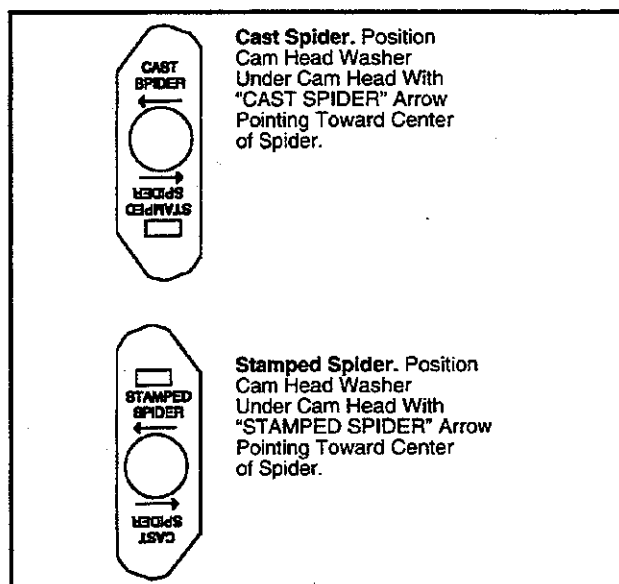

Figure 34—Camshaft Washer
The extended service brakes camshaft uses a special washer between cam head and spider. It is mandatory that the washer be installed correctly. (See Figure 34—Camshaft Washer.)
14. Install the cam. (See Figure 34—Horse Collar.)